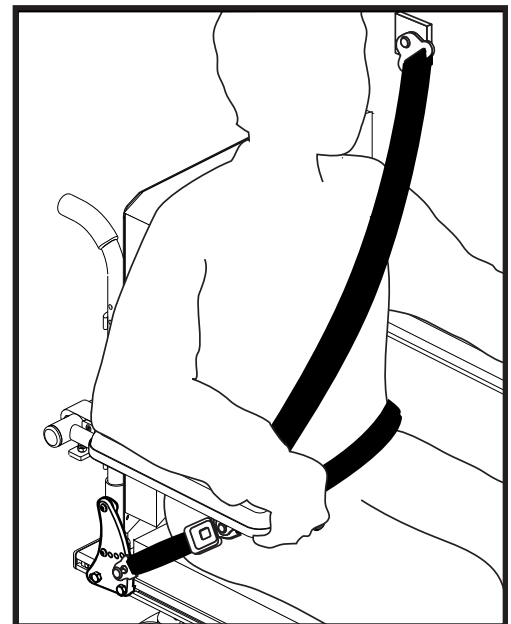

Figure 16. Proper Pelvic Belt Placement
- Place the upper-torso belt across the middle of the shoulder and the center of the chest, and connect to the pelvic belt that is secured to the floor of the vehicle. **See figure 16.**